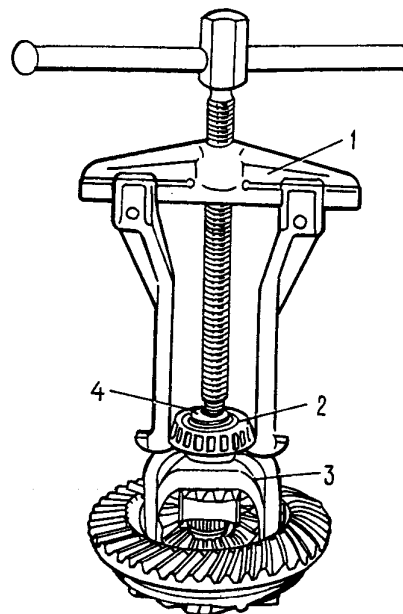

Fig. 3-71. Removing Inner Cone of Differential Case Bearing with General-Purpose Remover Tool A.40005/1/6:
- remove roller bearing inner cones 2 (Fig. 3-71) from case 3 using general-purpose remover tool A.40005/1/6 and stop A.45028;